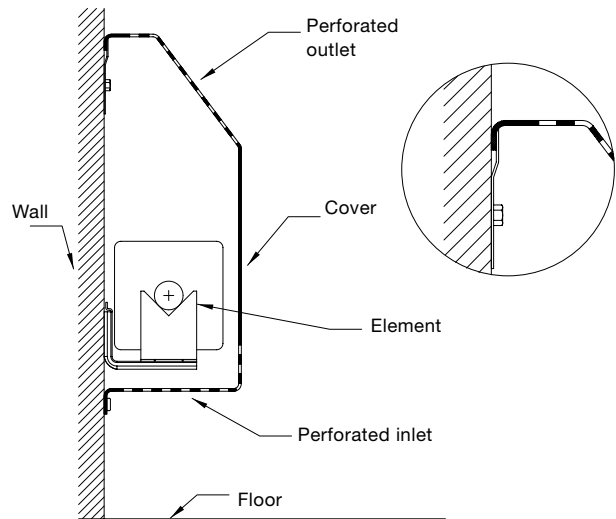

Figure S-5
5. Place the cover over the element and the offset strip and push the cover until it locks into the strip. (Figure S-5)